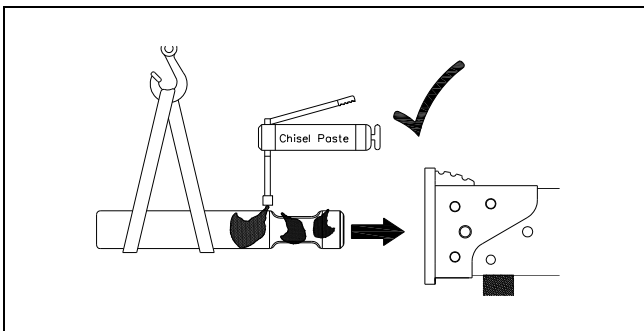

Fig. 6-29 Pre-Lube Tool Shank Before Installing
- If a new tool was installed, pre-greasing was completed before insertion into front head. Refer to Fig. 6-29. Follow the instructions found in the Operator's Manual for the breaker.
2. If a new tool is installed, apply a liberal amount of lubricate to the shank of the tool before inserting into front head (Fig. 6-29).